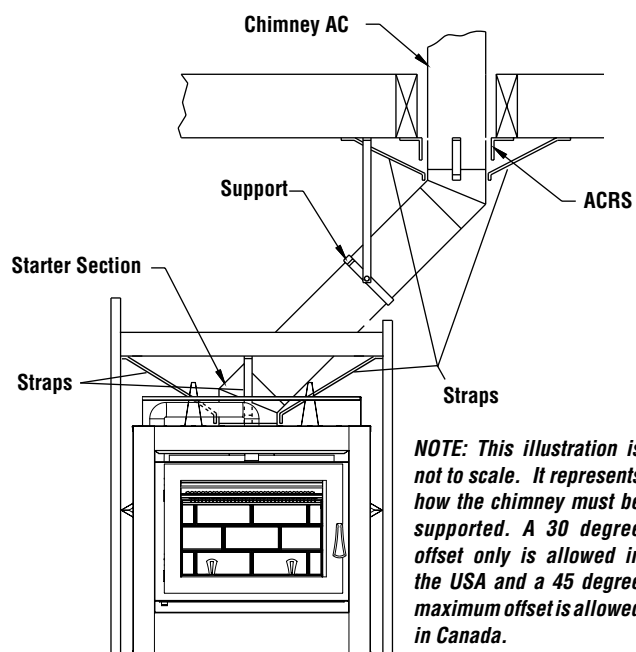

Figure 29
1. Install the first elbow. Turn it in the required direction. To lock it in place, turn 1/8 of a turn. Fasten the straps attached to the elbow to the surrounding frame, using nails or drywall screws (see **Figure 29**).